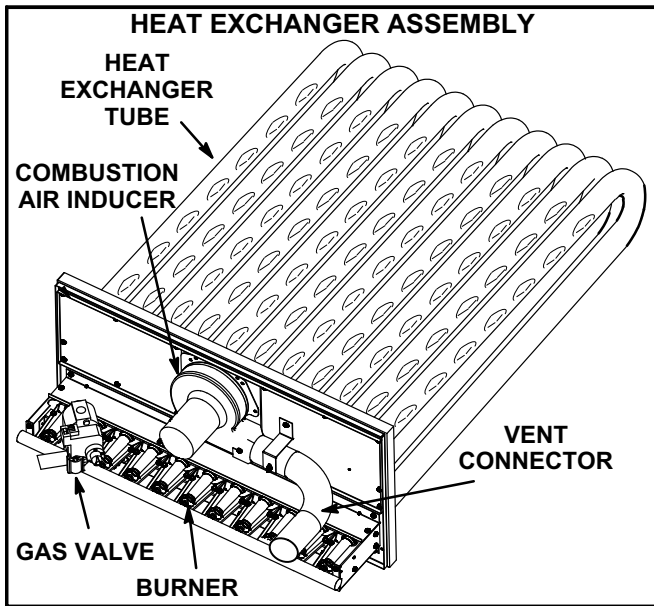

FIGURE 31
- 3- Remove and retain screws securing combustion air inducer to flue box. Remove and retain two screws from bracket supporting vent connector. See figure 31.